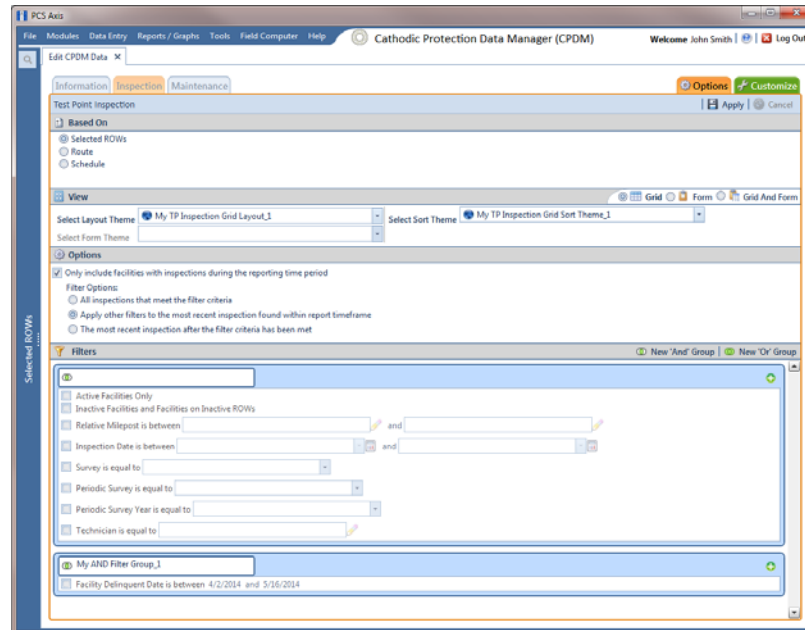

Figure 7-91. Options
- 14 To apply one or more filters to the data entry grid (Figure 7-91, page 305):